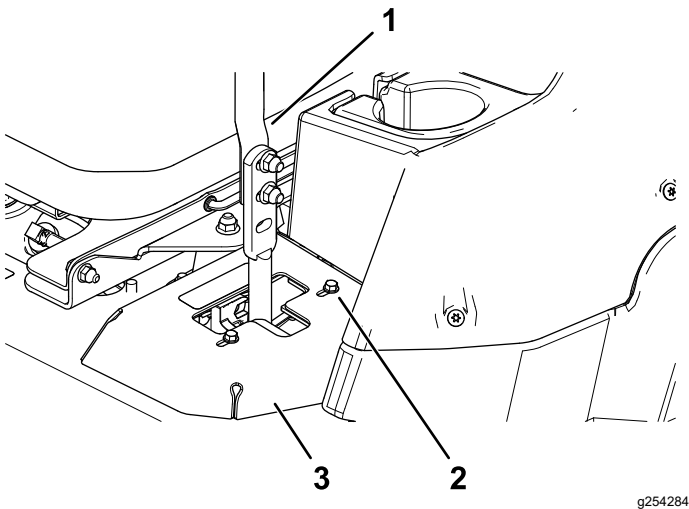

Figure 52
- If it tracks to the right, loosen the bolts and adjust the left stop plate rearward on the left T-slot until the machine tracks straight (Figure 52).
- If it tracks to the left, loosen the bolts and adjust the right stop plate rearward on the right T-slot until the machine tracks straight (Figure 52).
6. Tighten the stop plate (Figure 52).